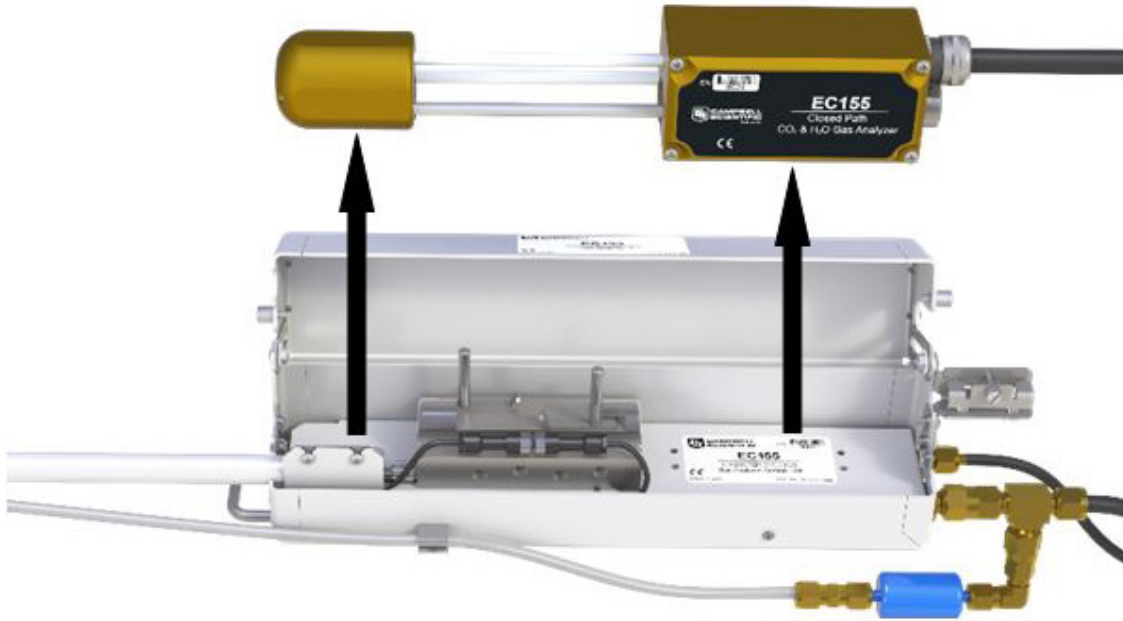
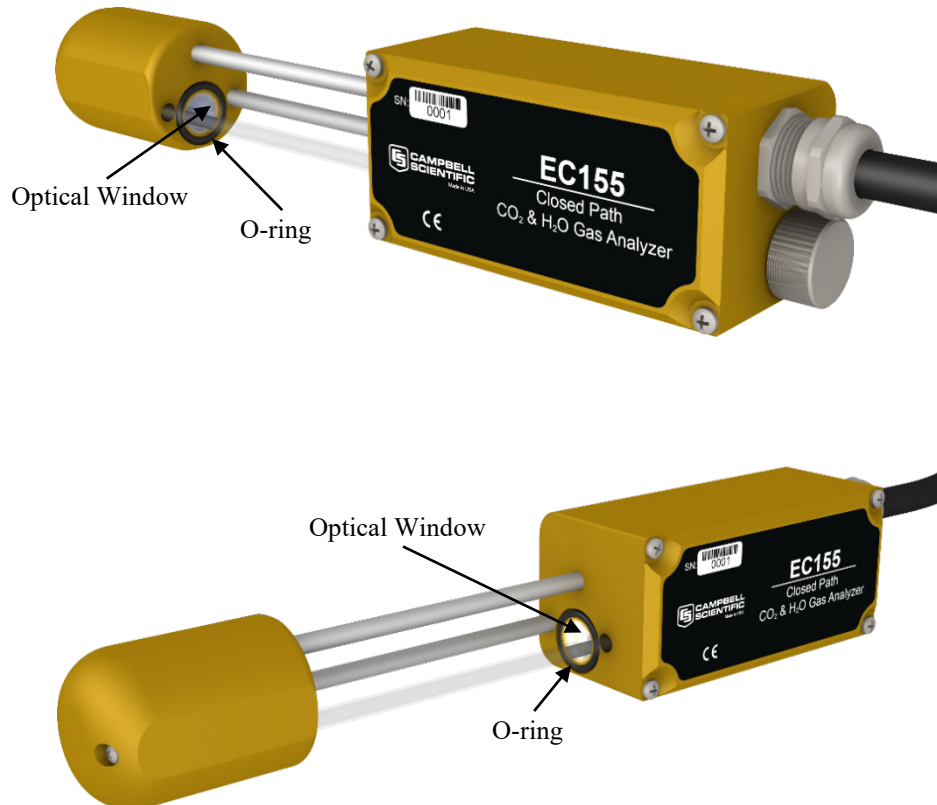

FIGURE 9-8. EC155 analyzer and sample cell with shell top open
FIGURE 9-9. Analyzer removed from sample cell and shell
4. Lift the analyzer head off the sample cell (see FIGURE 9-8), taking care not to lose the O-rings surrounding the optical windows (see FIGURE 9-9). If an O-ring is lost, two replacement O-rings may be found in the mesh pocket of the EC100 enclosure or new ones may be ordered.